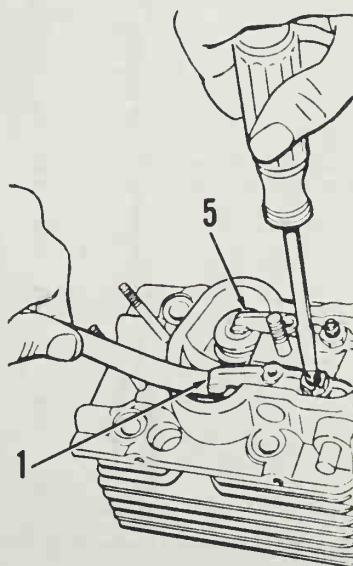

Fig. W2-6—Valve tappet gap should be 0.15 mm at exhaust rocker arm (1) and 0.10 mm at intake rocker arm (5).
Valve tappet gap may be adjusted after removing rocker arm cover. Valve tappet gap with engine cold should be 0.15 mm for exhaust valve (1-Fig. W2-6) and 0.10 mm for intake valve (5).